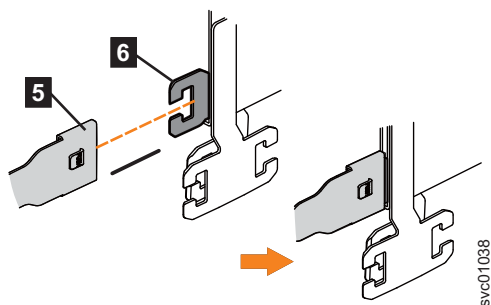

Figure 73. Attach the support rail connector of the upper CMA to the right support rail
4. Attach the support rail connector on the upper CMA assembly (5) to the connector base on the right support rail (6), as shown in Figure 73.